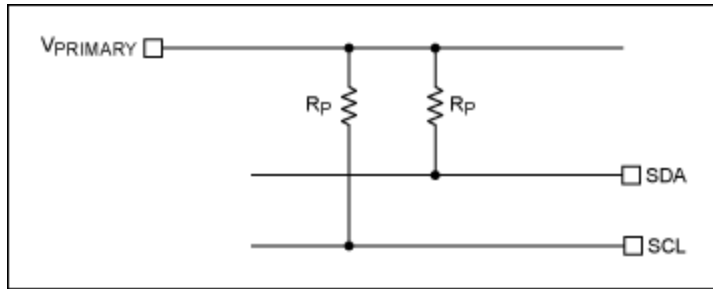

Figure 3. Single-supply I2C setup.
**Figure 3** provides an example of the single-supply modes of operation, which are easily configurable for I2C communications. Pullup resistors are simply tied to the power supply that will be used during communications with the RTC.